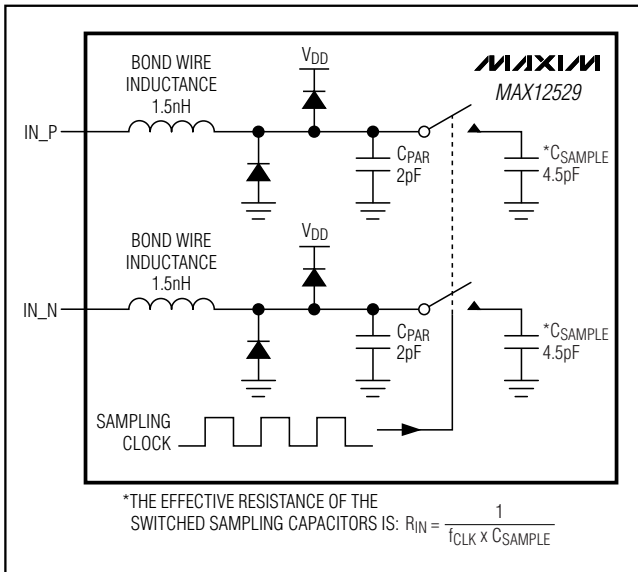
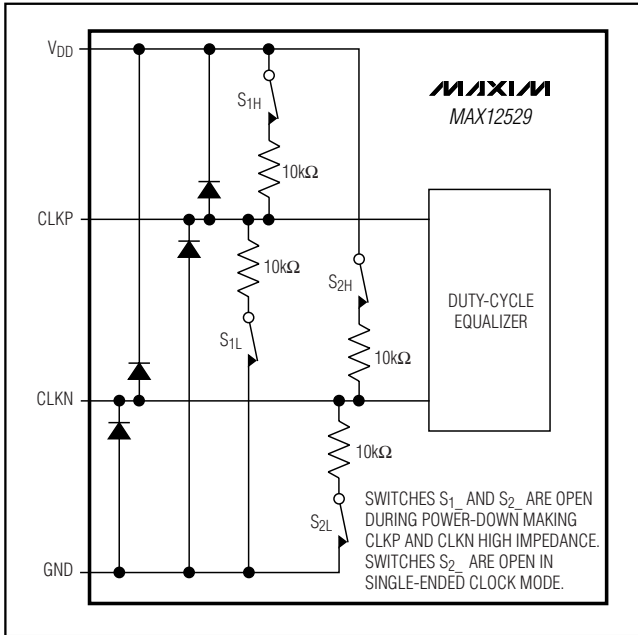

Figure 3. Internal T/H Circuit
Figure 4. Simplified Clock Input Circuit
Figure 3 displays a simplified functional diagram of the input T/H circuit. This input T/H circuit allows for high analog input frequencies of 175MHz and beyond and supports a  $V_{DD} / 2$  common-mode input voltage.
The MAX12529 sampling clock controls the switched-capacitor input T/H architecture (Figure 3) allowing the analog input signals to be stored as charge on the sampling capacitors. These switches are closed (track mode) when the sampling clock is high and open (hold mode) when the sampling clock is low (Figure 4). The analog input signal source must be able to provide the dynamic currents necessary to charge and discharge the sampling capacitors. To avoid signal degradation, these capacitors must be charged to one-half LSB accuracy within one-half of a clock cycle. The analog input of the MAX12529 supports differential or single-ended input drive. For optimum performance with differential inputs, balance the input impedance of  $IN_P$  and  $IN_N$  and set the common-mode voltage to mid-supply ( $V_{DD} / 2$ ). The MAX12529 provides the optimum common-mode voltage of  $V_{DD} / 2$  through the COM output when operating in internal reference mode and buffered external reference mode. This COM output voltage can be used to bias the input network as shown in Figures 9, 10, and 11.
The MAX12529 accepts both differential and single-ended clock inputs with a wide 25% to 75% input clock duty cycle. For single-ended clock input operation, connect DIFFCLK/SECLK and CLKN to GND. Apply an external single-ended clock signal to CLKP. To reduce clock jitter, the external single-ended clock must have sharp falling edges. For differential clock input operation, connect DIFFCLK/SECLK to OVDD. Apply an external differential clock signal to CLKP and CLKN. Consider the clock input as an analog input and route it away from any other analog inputs and digital signal lines. CLKP and CLKN enter high impedance when the MAX12529 is powered down (Figure 4).
- 1) INAP/B and INAN/B analog inputs are disconnected from the internal input amplifier (Figure 3).
- 6) CLKP and CLKN clock inputs enter a high-impedance state (Figure 4).